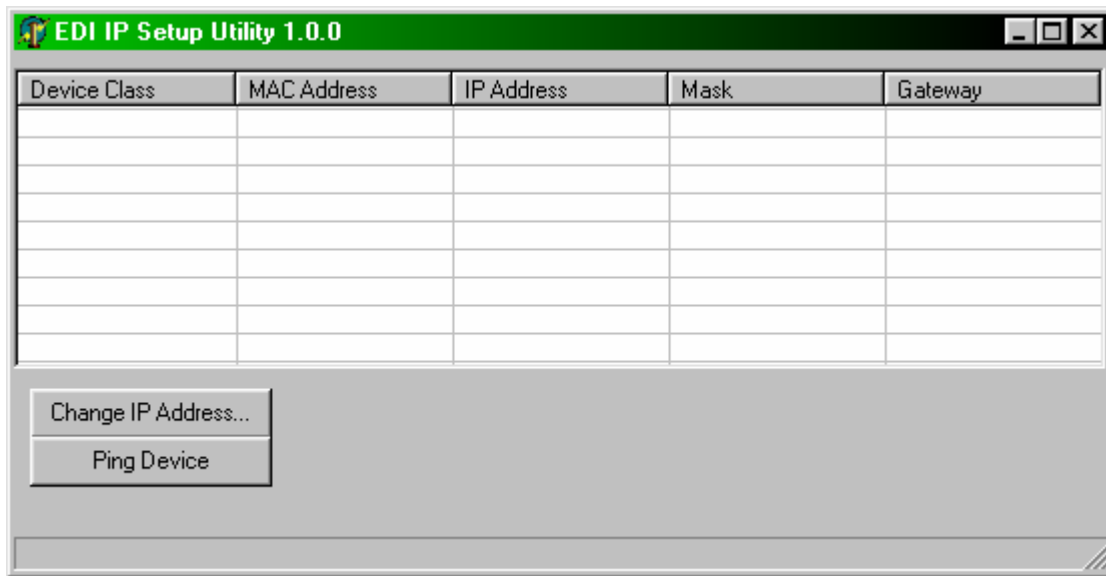

FIGURE 2
7. Highlight the Device you would like to change and Click Change IP Address...(See Figure 2)